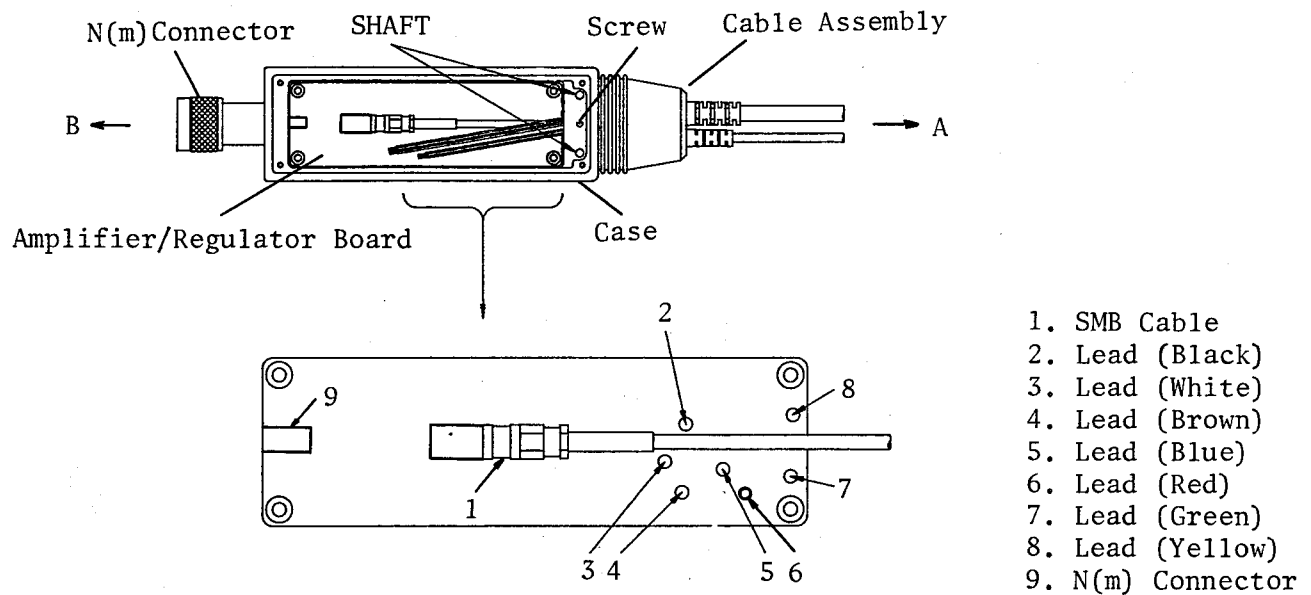

Figure 6-2. Amplifier/Regulator Board Disassembly
4. Remove the two SHAFTs and the screw as shown in Figure 6-2.
5. Disconnect the coaxial cable (item 1 in Figure 6-2) from the SMB connector on the Amplifier/Regulator Board assembly.
6. Remove the leads, item 2 through 8 on Figure 6-2, from the Amplifier/Regulator Board assembly.
7. Draw the coaxial cable and leads, a part of cable assembly PN 41800-61601, from the CASE toward the arrow A as shown in Figure 6-2.
8. Remove the solder at point 9 as shown in Figure 6-2.
9. Remove the N(m) connector from the CASE toward the arrow B shown Figure 6-2, while holding the soldering iron at point 9 as shown in Figure 6-2.